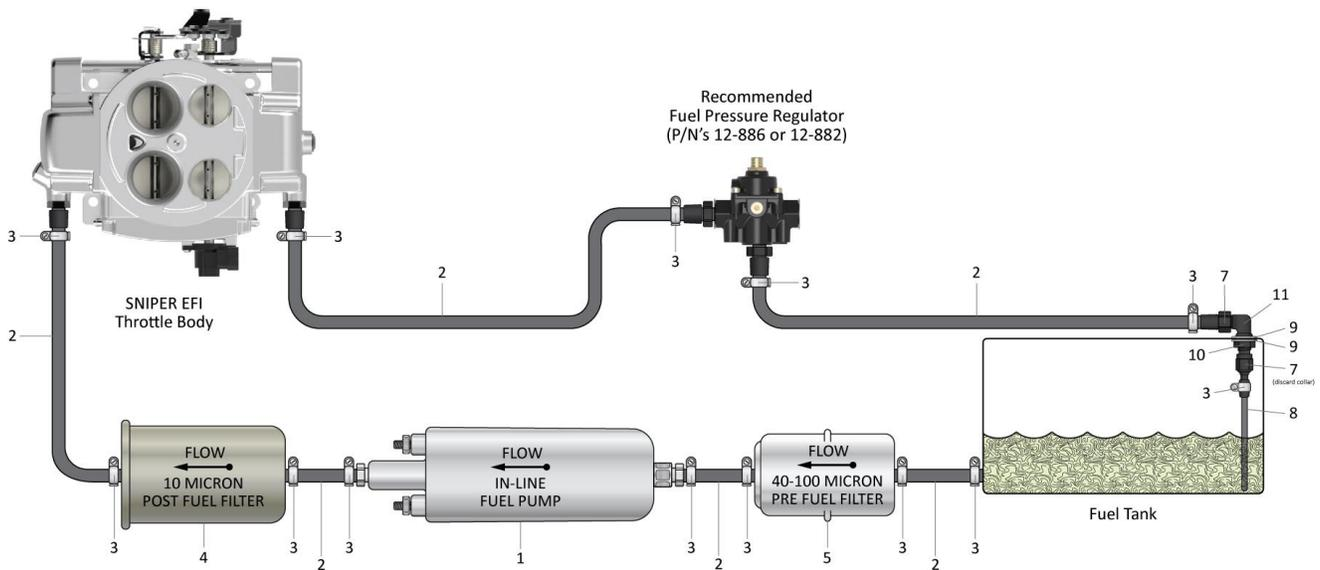

Figure 4
- Connect fuel feed and return hose. The Sniper EFI needs to be fed with 58 PSI of fuel pressure. This must be accomplished with an EFI fuel pump and bypass fuel pressure regulator. We recommend placing the fuel pressure regulator after the Sniper EFI throttle body like shown in Figure 4.